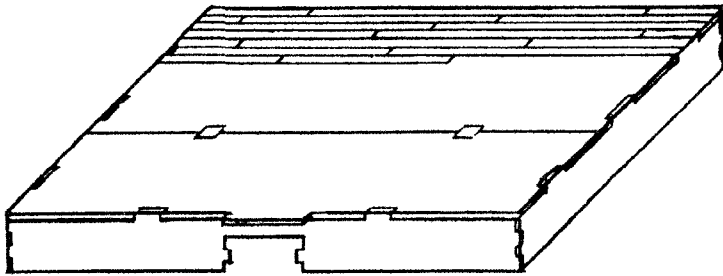

Figure 11
4. Start laying the hardwood strips at the back of the house and work toward the front. Cut the strips with scissors. Off-set the joints as shown in Figure 11.